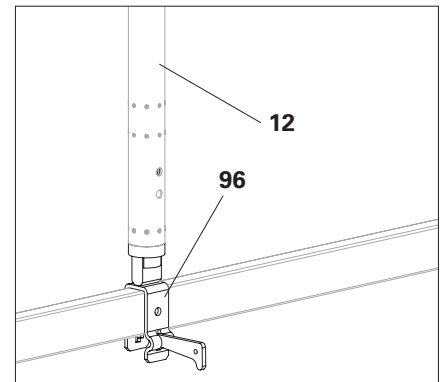

Fig. A11.09c
3. Fit standard (**12**) on UH Spigot (**96**). (Fig. A11.09c)